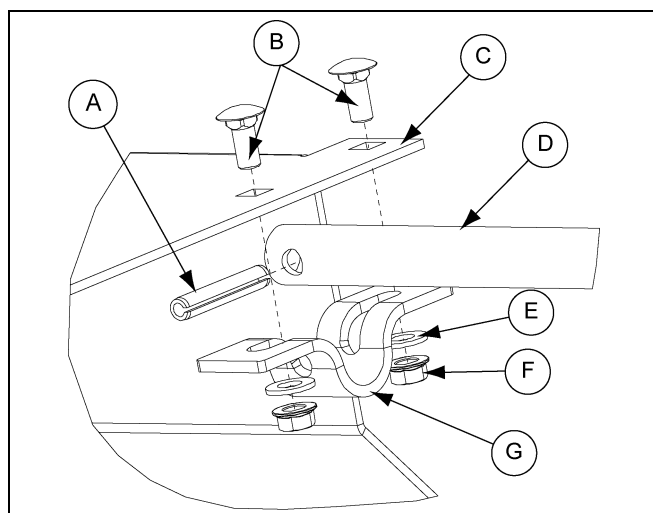

Figure 4N
1. Close the centerwell control gate (C) completely.
2. Align the centerwell control rod (D) between the two (2) holes in the centerwell control gate (C).
3. Attach the 1/2" control rod clamp (G) to the centerwell control rod (D) by sliding 5/16" x 1-3/4" roll pin (A) through the clamp and the rod.
4. Fasten the control rod clamp (G) to the bottom side of the centerwell control gate (C) by using two (2) 5/16" x 3/4" carriage bolts (B), flat washers (E) and serrated flange nuts (F). Install the nuts so that they secure the roll pin in place. (See Figure 4N.)